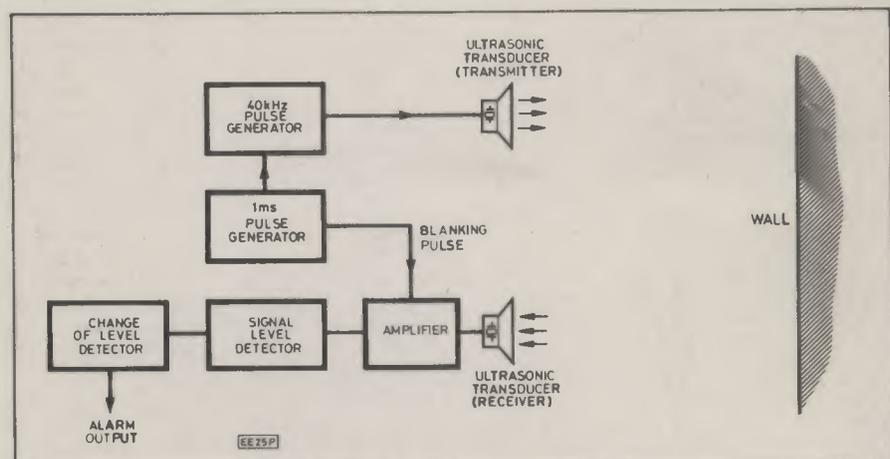

Fig. 7. Block diagram of ultrasonic transceiver.
- 2) The receiver circuits can be desensitised during transmission so that only the reflected signal is detected by the receiver. This is essential if the transmitter and receiver are in the same box. The circuit arrangement for the transceiver is illustrated in Fig. 7.